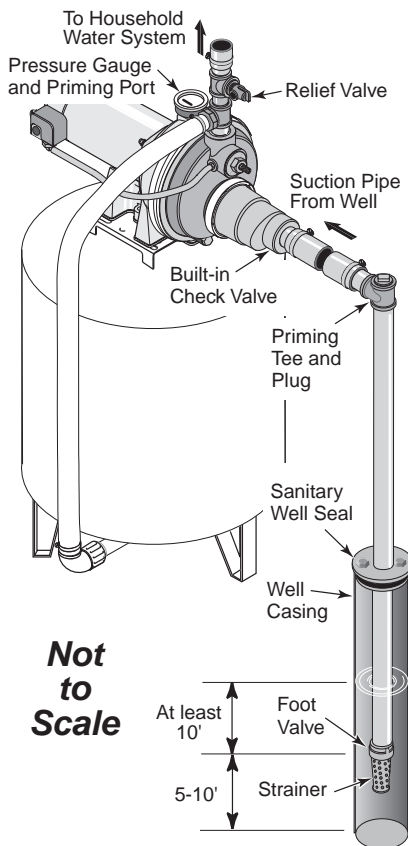

Figure 6: Cased Well Installation
Cased Well Installation, 2” or Larger Casing (Figure 6)
4. Assemble the foot valve, strainer, and well pipe (see Figure 6). Make sure that the foot valve works freely.
6. Install a priming tee, priming plug, and suction pipe to the pump (see Figure 6). Connect the pipe from the well to the pump suction port, using the fewest possible fittings – especially elbows – as fittings increase friction in the pipe. The suction pipe should be at least as large as the suction port on the pump. Support the pipe so that there are no dips or sags in the pipe, so it doesn’t strain the pump body, and